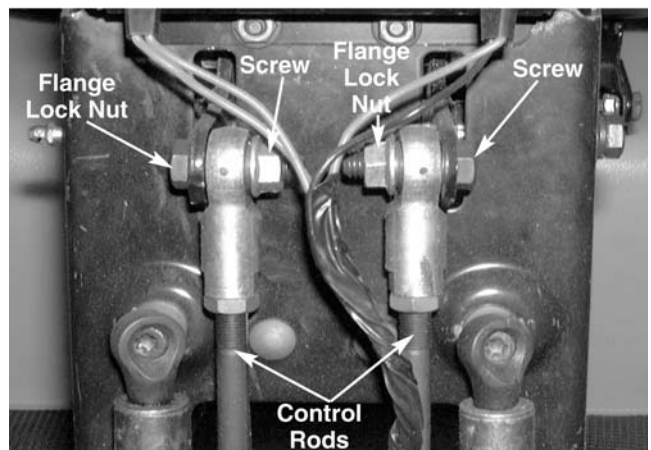

Figure 10-5.
- Remove the hex cap screw and flange lock nut securing each control rod assembly to the upper left and right bellcrank assemblies using a 9/16 socket and 9/16 wrench. See Figure 10-5.